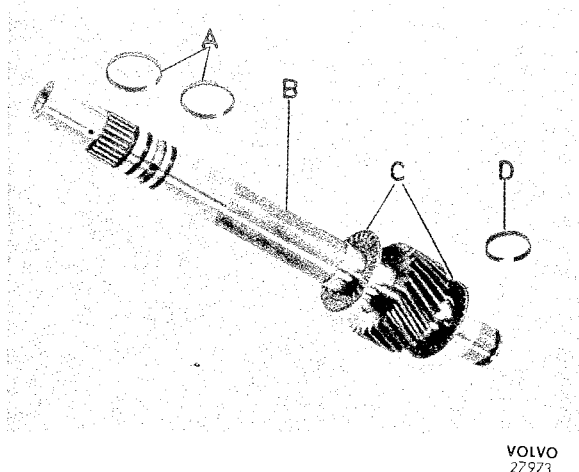

Fig. 4-104. Forward sun gear components
14. Place the front needle thrust bearing on the rear sun gear shaft. Fit the shaft in the rear clutch assembly. Install the oil sealing rings, see Fig. 4-104.